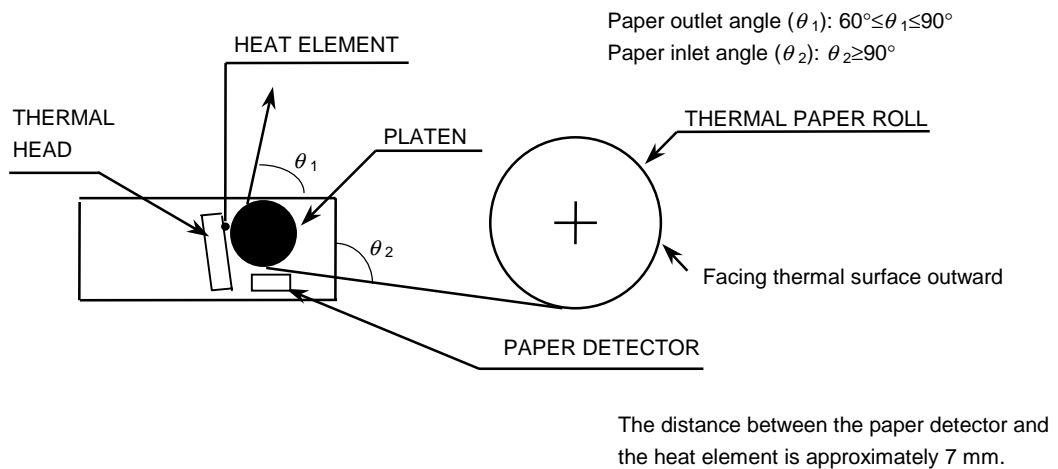

Figure 6-3 Paper Path
- The printer can be laid out as shown in **Figure 6-3** according to the loading direction of the paper.